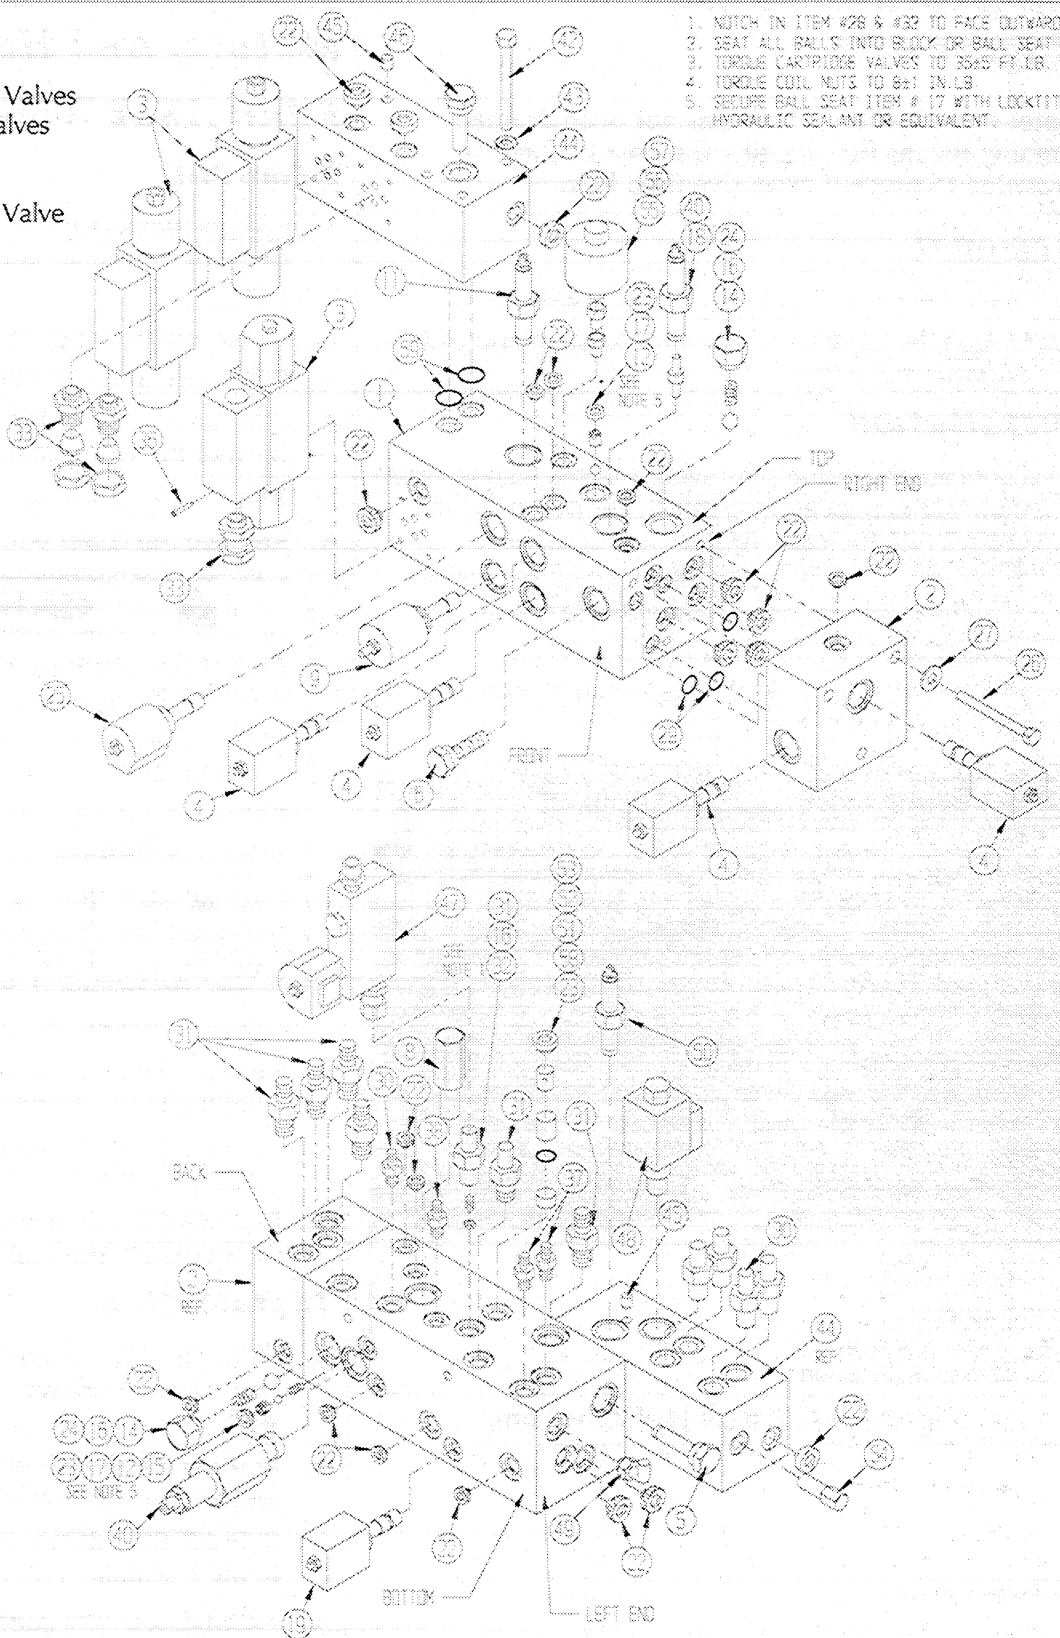

Figure 4-14: Hydraulic Manifold, Exploded View
### 4.7 Hydraulic Manifold (Figure 4-14)
**Note:** Mark all components as they are removed so as not to confuse their location during assembly. Refer to Figure 4-14 often to aid in disassembly and assembly.